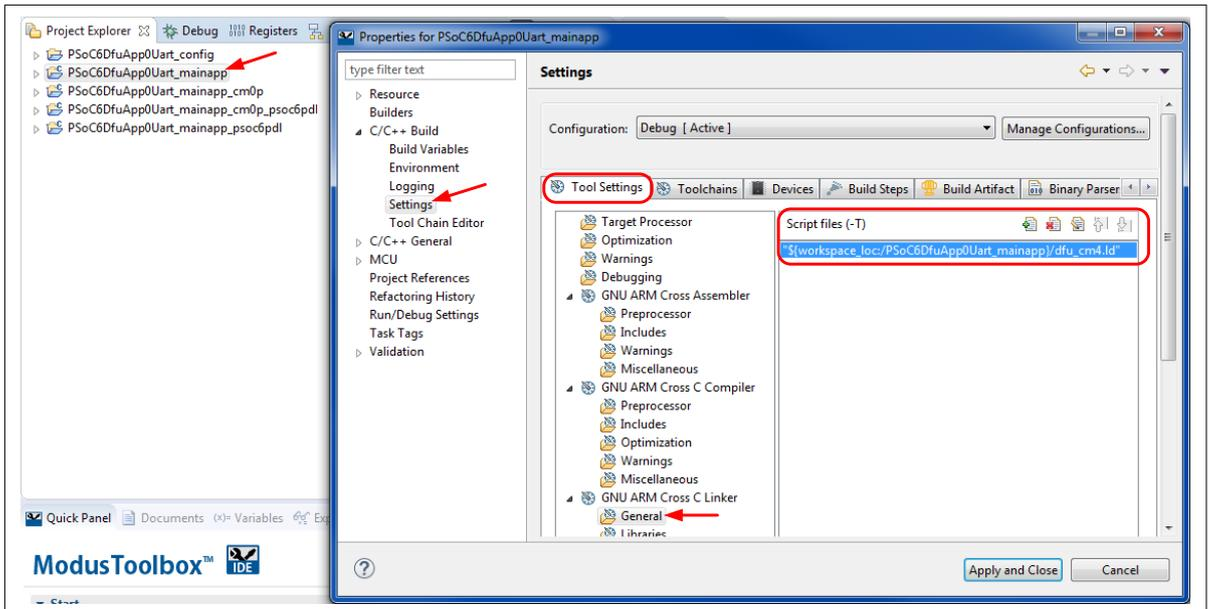

Figure 8 ModusToolbox™ project properties setting for custom linker script
- Change the project properties to use the DFU linker script files instead of the default linker script files. Select the `dfu_cm4.ld` file for `_mainapp`, as Figure 8 shows. Include the relative path to the file. Select the `dfu_cm0p.ld` file for `_mainapp_cm0p` (not shown in the figure).